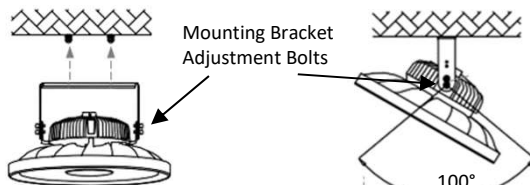

Figure 7
5. Using the enclosed nuts, install the yoke mounting bracket onto the expansion screws, and securely tighten the nuts. (See Figure 7)